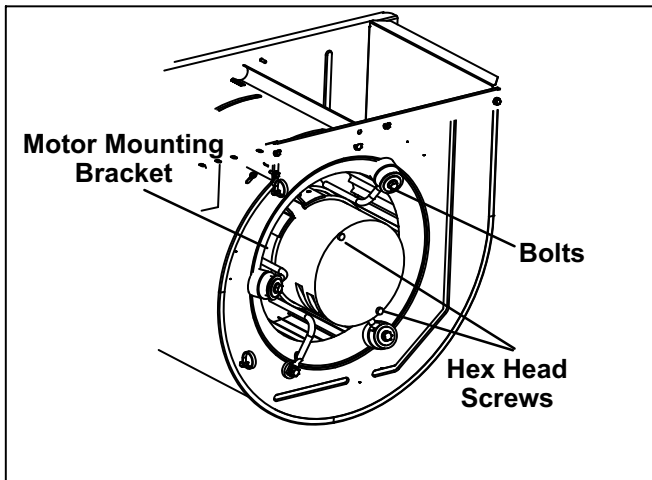

Figure 2. Fasteners
- 5 - Loosen motor shaft set screw. Remove the bolts that secure the blower motor mounting bracket to the blower housing. See figure 2. Gently ease blower motor out of housing.